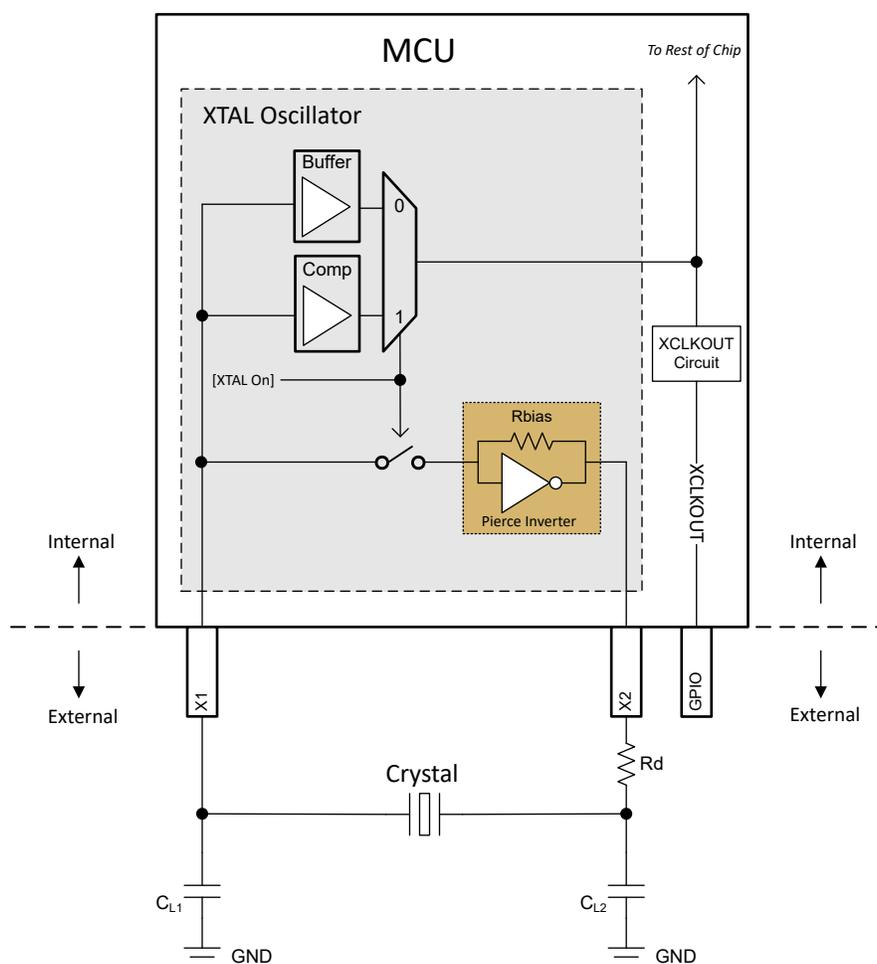

Figure 6-15. Electrical Oscillator Block Diagram
The electrical oscillator in this device is a Pierce oscillator. It is a positive feedback inverter circuit that requires a tuning circuit in order to oscillate. When this oscillator is paired with a compatible crystal, a tank circuit is formed. This tank circuit oscillates at the fundamental frequency of the crystal. On this device, the oscillator is designed to operate in parallel resonance mode due to the shunt capacitor (C0) and required load capacitors (CL). Figure 6-15 illustrates the components of the electrical oscillator and the tank circuit.
From Figure 6-15, CL1 and CL2 are in series; so, to find the equivalent total capacitance seen by the crystal, the capacitance series formula has to be applied which simply evaluates to $[CL1]/2$ if $CL1 = CL2$.